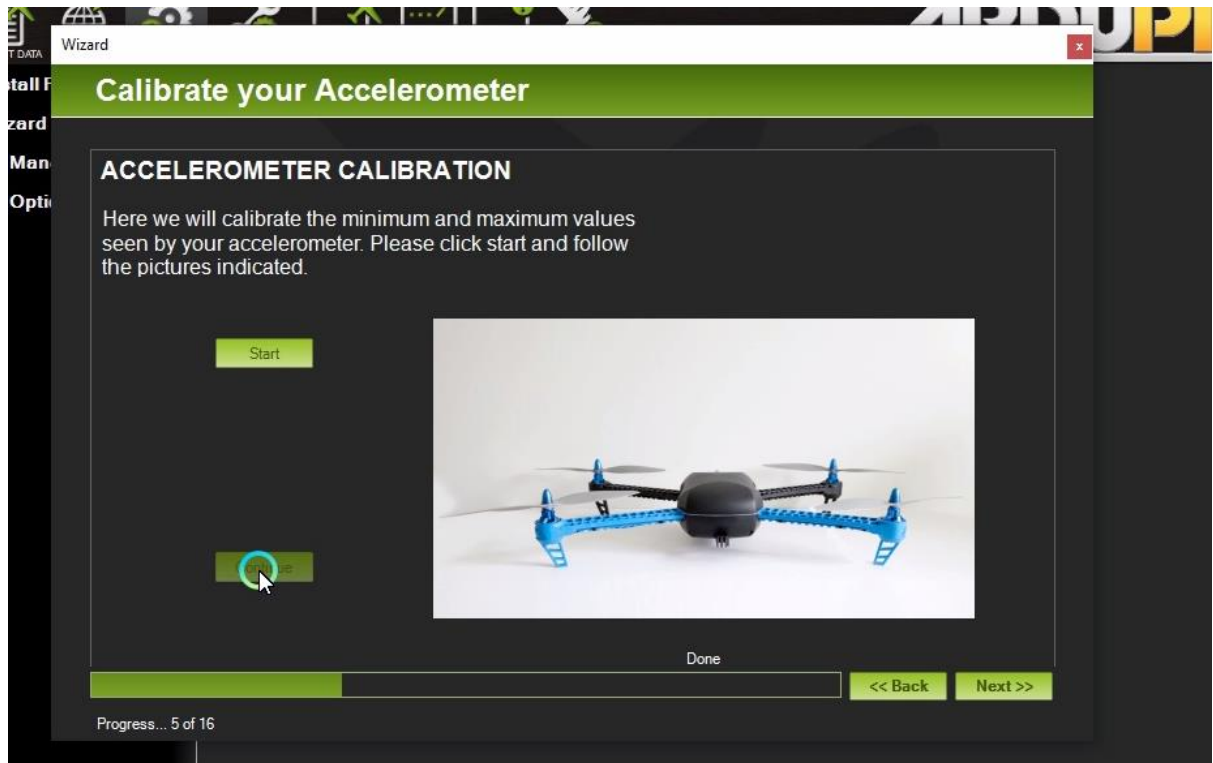

Fig.4.7
8. After successfully calibrated, it will show done. Now, click next. Refer Fig.4.7.